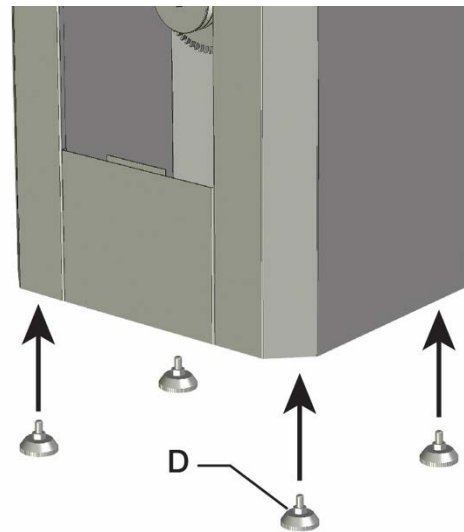

Figure 7-6
1. Turn door lock knob (A) counterclockwise to unfasten door. Pull the top of the door (B) out and lift the door from stand.
2. Look inside the stand and locate the welded nuts (C) used for mounting the rubber feet. Make sure the M10 hex nut is attached to the four rubber feet (D). Attach rubber feet to the bottom of cabinet (see Figure 7-6).
3. Attach dust port (E) to stand using four M5x10 screws (F).